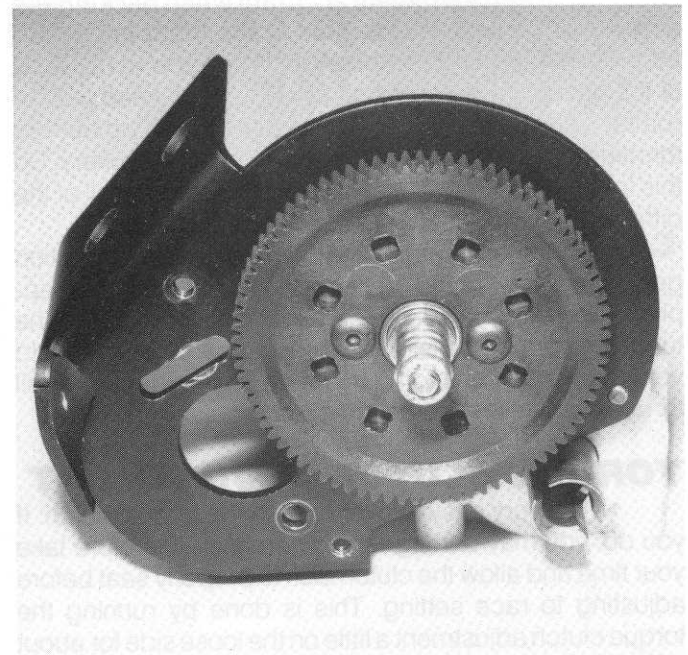

**Fig. 74**
□ **Fig. 74** Now we'll be assembling these parts, in the order shown, onto the shaft. First, install the #6901 ball bearing from Bag B into the #6584 clutch hub, and then slide the hub onto the shaft, making sure the clutch disk stays centered on the hub.